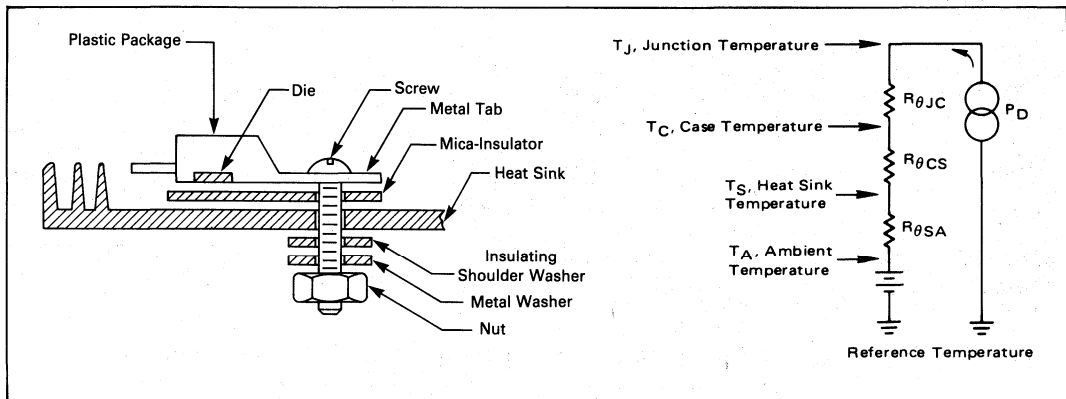

FIGURE A1 — BASIC THERMAL RESISTANCE MODEL SHOWING THERMAL TO ELECTRICAL ANALOGY FOR A SEMICONDUCTOR
An analogy between Equation (2) and Ohm's Law is often made to form models of heat flow. Note that  $\Delta T$  could be thought of as a voltage; thermal resistance corresponds to electrical resistance ( $R$ ); and, power ( $q$ ) is analogous to current ( $I$ ). This gives rise to a basic thermal resistance model for a semiconductor as indicated by Figure A1.